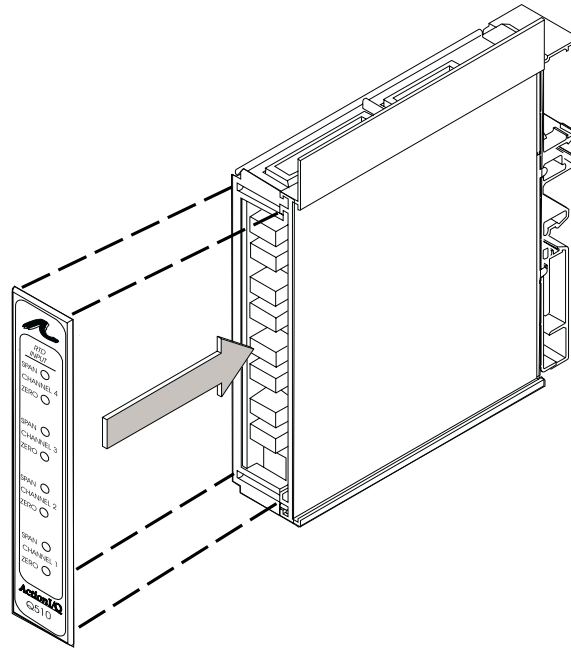

Figure 3: ActionI/Q Module and Removable Faceplate
5. To remove a module from a row, first detach the faceplate of the unit to the right of the unit to be removed (see figure 3). Then remove the terminal connectors by gently pulling them away from the module. Once the terminals are clear, use a blade screw driver to release the foot tabs from the base of the module while pulling the unit gently free (see Figure 4). Replace the faceplate of the adjacent unit.